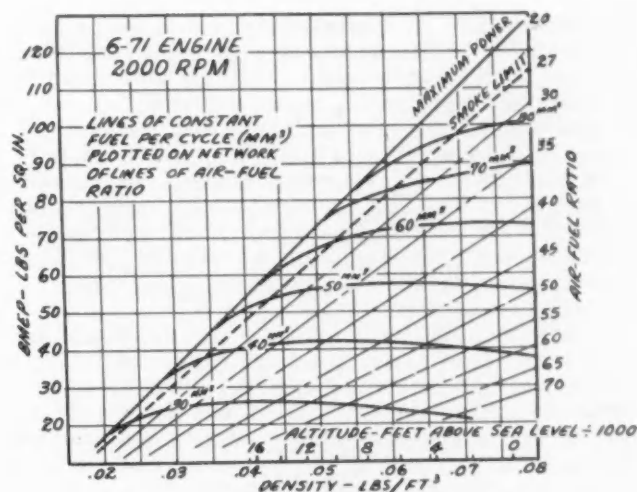

Fig. 1—Altitude characteristics at 2000 rpm
3. Developing charts similar to that shown as Fig. 1, which contains a complete portrayal of performance for the GM 6-71 engine at 2000 rpm, both at sea level and at altitude.
The data are now in a fundamental and useful form. To complete the information, the performance is cross-plotted at various fixed injector rack settings corresponding to the injector inputs of 30 through 80 cu mm per stroke. Fig. 1 shows the final chart for the 6-71 engine for 2000 rpm. Similar charts are readily prepared for any other desired speed.